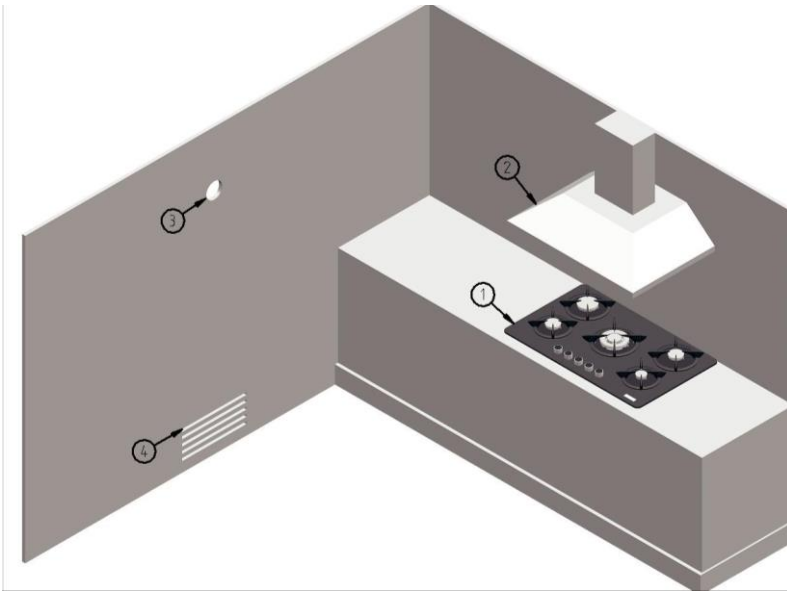

Figure 5.
- The distance between the hob sole and the partition should be at least 25 mm. (Figure 5)
- The distance between the cook top and another device (e.g. kitchen hood) shall not be less than 700 mm (Figure 5).